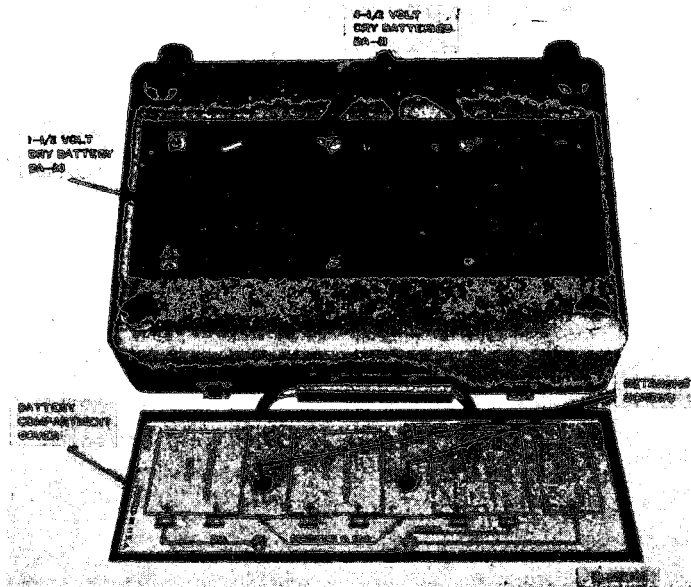
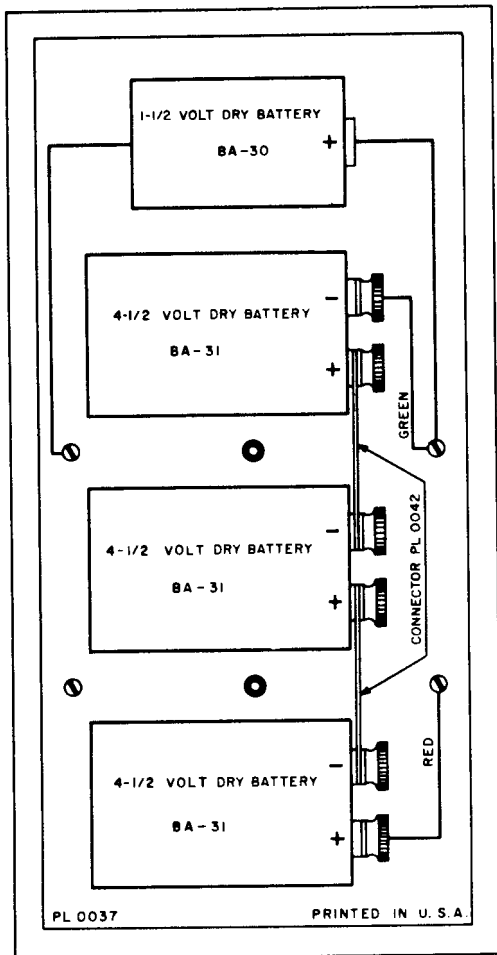

Figure 2-2. Battery compartment with batteries in position.
Figure 2-3. Battery connection diagram on inside compartment cover.
a. Battery Installation. To install the batteries in the multimeter (fig. 2-2), place the multimeter face down on a flat firm surface and proceed as follows:
(1) Loosen the retaining screws that hold the cover in place by turning the screws counterclockwise.
(2) Lift up and remove the cover. Place the cover so that the connection diagram on the inside of the cover (fig. 2-3) can be easily referred to in order to make the necessary connections.
(3) Connect three Dry Batteries BA-31 in series; use the connectors supplied. Install the batteries in the battery compartment, as indicated by the connection diagram on the battery compartment cover.
(4) Place Dry Battery BA-30 in the compartment provided so the spring makes contact with the bottom of the battery.
(5) Place the battery compartment cover on the bottom of the multimeter.
(6) Align the retaining screws with their proper holes.
(7) Hold the cover to prevent it from shifting, and secure the cover in position by turning